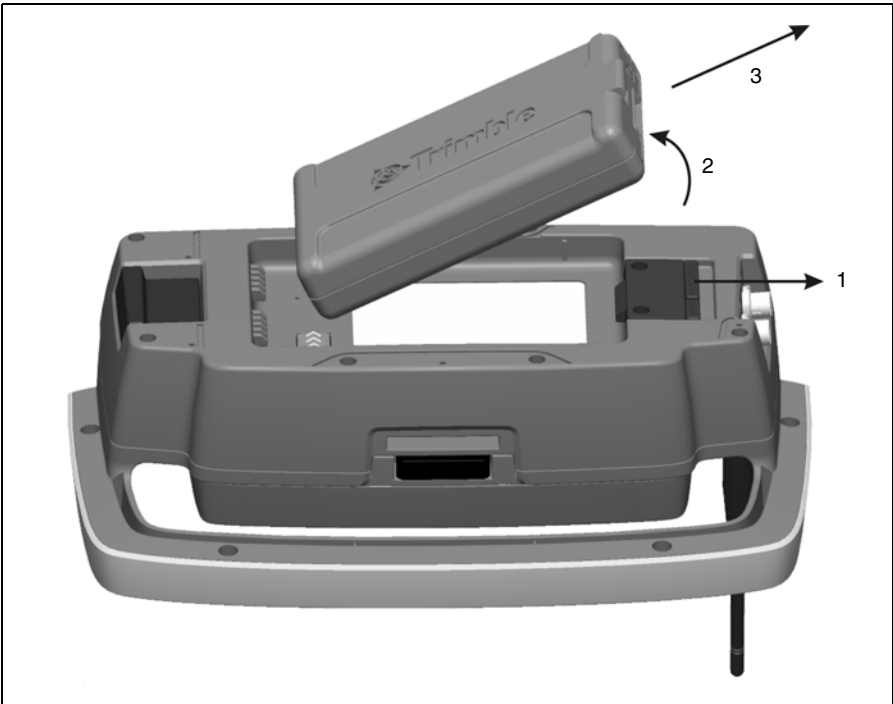

Figure 7.81 Detaching a battery from the Trimble Robotic Holder
1. Pull the battery lock mechanism away from the battery (1).
2. Lift up this side of the battery (2).
3. Remove the battery from the holder (3). See figure 7.81.